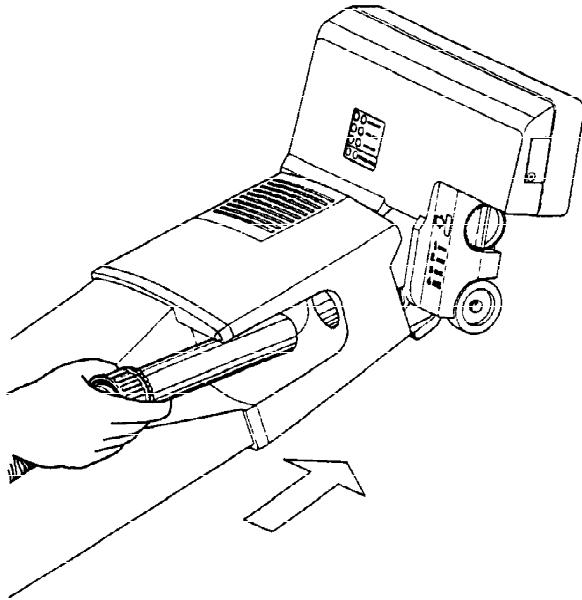

Figure 2
2. **Accessory Hose (Figure 2)**